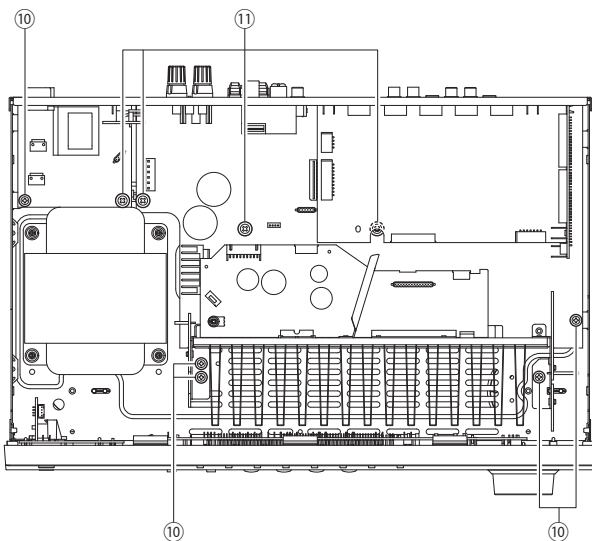

Fig. 5
- Remove 5 screws (⑩) and 4 screws (⑪). (Fig. 5)
- ⑩のネジ5本、⑪のネジ4本を外します。(Fig. 5)